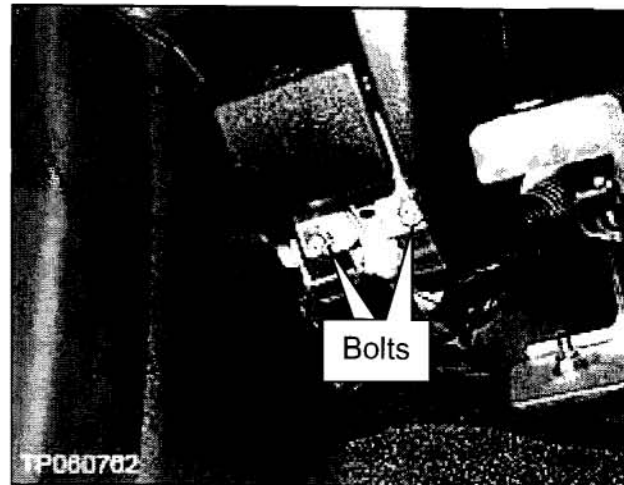

Figure 4
- a. Remove the bolts shown in Figure 4.